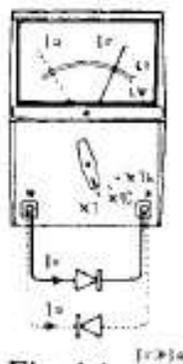

Fig. 14
- 4-1 The connections of Fig. 14 read I_F (forward current) or I_R (reverse current) on the LI scale provided. For the 1k range, the scale reads 0~150uA, for the X10 range 0~15mA, and for the X1 range 0~150mA.
it by the connections of Fig. 14 to measure I_F ; it is impossible to have light emitted. The 3-volt internal battery layout of the instrument effectively checks it on the X1 range. While light is being emitted, the LI scale reads the current I_F , and the LV scale the forward voltage V_F .